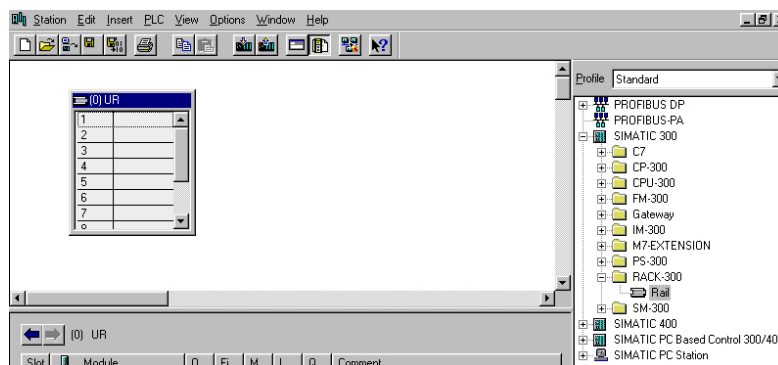

Figure 6-5 Select Type of Racking
10. Select the type of racking by dragging and dropping the appropriate rail type from the right-hand window into the top left-hand window (see Figure 6-5).